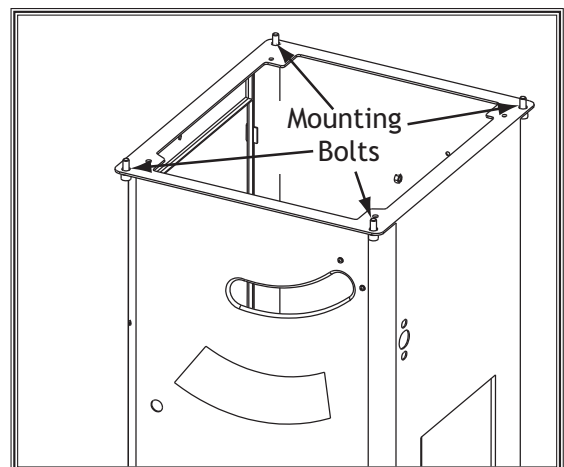

Figure 99. Table mounting bolts.
6. To adjust the table, loosen the four cap screws in the table mounting locations (see **Figure 99**) and slightly tap the table in the needed direction. Repeat **Steps 2-5** until the blade and miter slot are parallel.